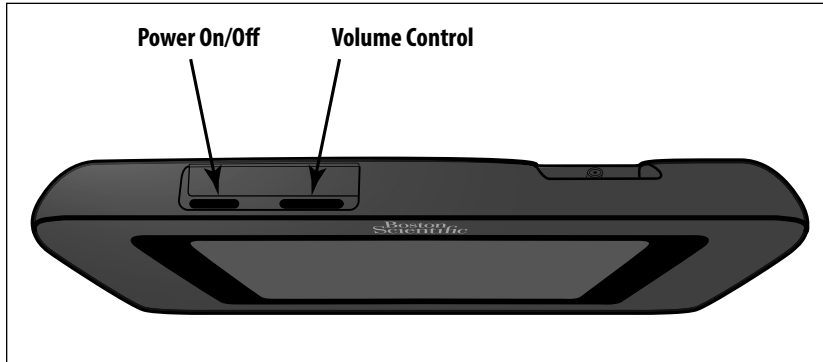

Figure 3: *Turning the programmer On/Off and changing the volume level*
The programmer power button is located in the recess above and behind the left corner of the screen. Press and hold the button until the display screen is active (Figure 3).
Note: *If the programmer cannot be turned on while it is connected to AC power via the external power supply, first unplug the external power supply cord from the programmer. Press and hold the programmer power button until the display screen is active (Figure 3). AC power via the external power supply can then be reconnected.*
The volume level of programmer-generated sounds may be temporarily adjusted using the volume control (Figure 3). This level is automatically reset when the programmer is restarted.
- The power button (Figure 3) is momentarily pressed and released